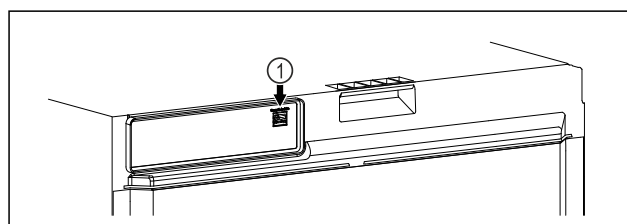

Fig. 113
- ❑ SmartModule Fig. 113 (1) has been inserted.